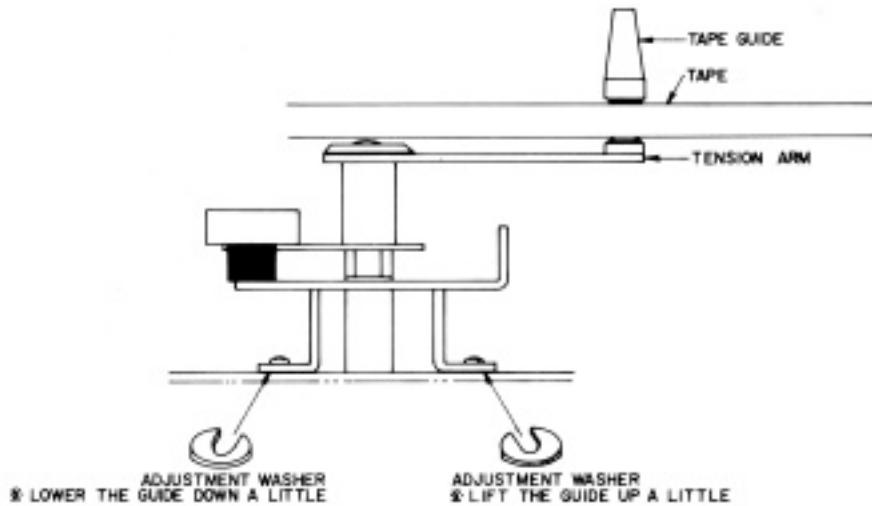

Fig. 10
#### 18. TAPE GUIDE HEIGHT ADJUSTMENT (Refer to Fig. 10)
- 2) In case the tape guide is low, adjust by inserting a U Type Washer on the right side in Fig. 10, and in case it is high, adjust by inserting a washer on the left side.